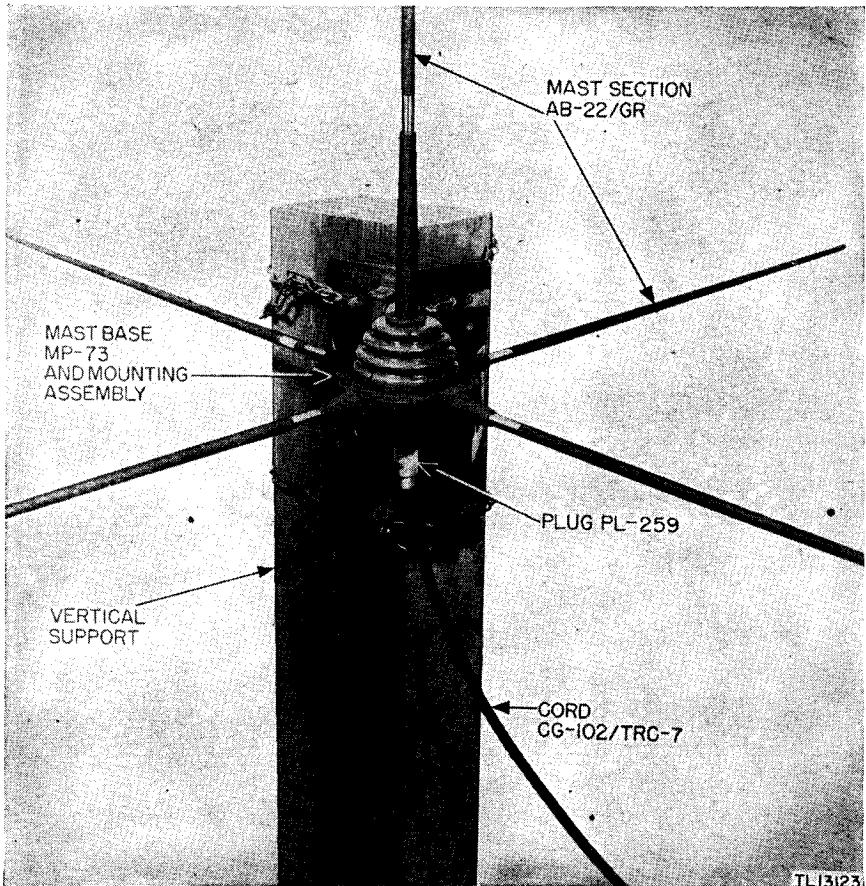

Figure 34. Antenna Equipment RC-291-(), showing Mast Base MP-73 and mounting assembly, installed on support.
a. LOCATION OF ANTENNA. Select a tree at the edge of a wooded area, or else erect a pole in a clear area. The tree or pole should be 2-or more inches in diameter and should be able to support easily the weight of the equipment to be mounted on it. If a tree is used, it should be topped before installing the antenna (fig. 34).
(5) *Assembling mast sections.* Assemble one set of mast sections by screwing Mast Section AB-24/GR into Mast Section AB-23/GR, and this into Mast Section AB-22/GR. Assemble four more sets in similar fashion. Haul the five sets of mast sections to the top of the support and screw them into the five female inserts that project from the sides and top of the mast base (fig. 34).